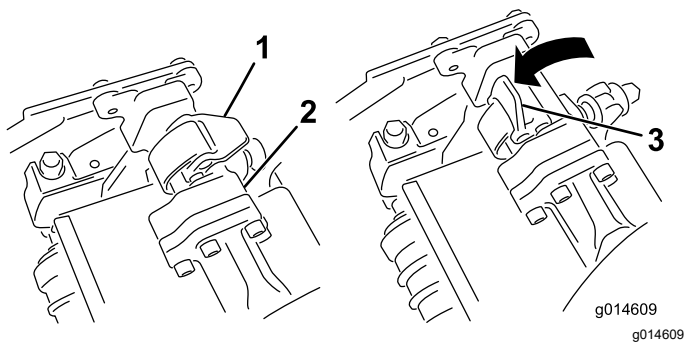
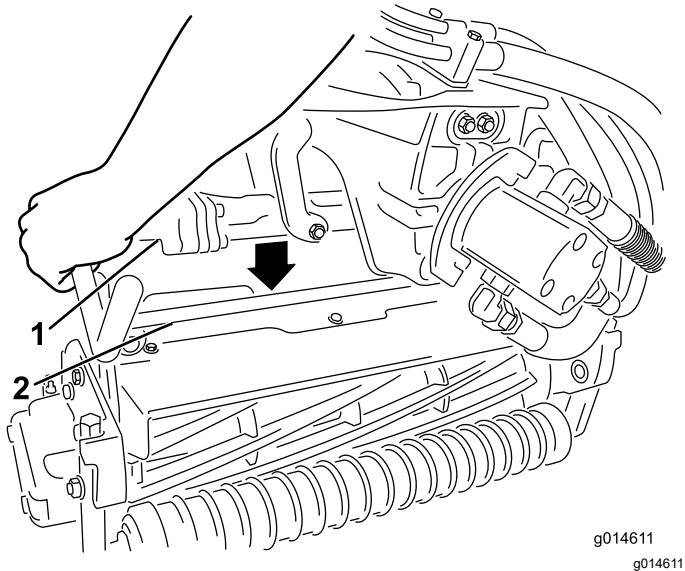

Figure 52
Figure 53
3. With the latches on the suspension-arm bar pointing up (i.e., open) (Figure 52), push the suspension arm down so that the bar fits over the bar across the top of the cutting unit (Figure 53).
4. Close the latches down and around the cutting-unit bar and lock them in place (Figure 52).
4. Open the latches on the suspension-arm bar of the cutting unit you are removing (Figure 52).